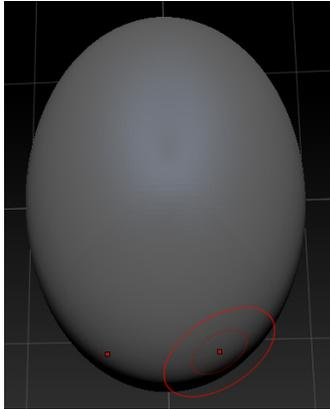

Figure 3-54 Top view of the turtle shell
- To view the elongated *turtle shell*, you need to switch to its top view. To do so, press and hold the left mouse button, and drag the cursor downward in the canvas area; the view is rotated and the top view of the *turtle shell* is displayed, refer to Figure 3-54.